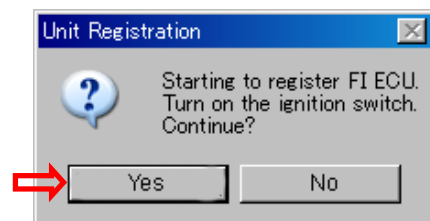

Fig. 5-50 FI ECU Selection
- When Fig. 5-50 appears, select Yes